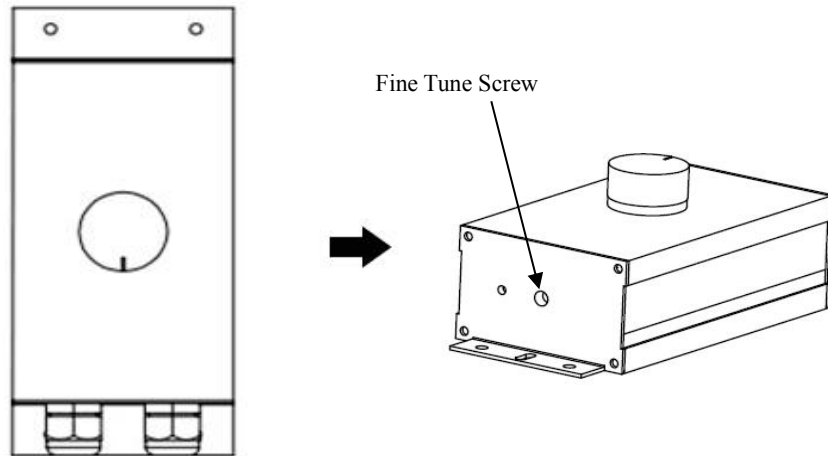

Fig. 4 Fan Speed Adjustment
2. **Set the minimum fan speed limit:** As shown in Fig. 4, the minimum fan speed can be fine-tuned by tuning a screw on the side of BRT-784 during initial installation. Turn on the fan and rotate the speed control knob to run the fan at the lowest speed. Then, turn the screw using a screw driver to obtain a minimum fan speed as desired.